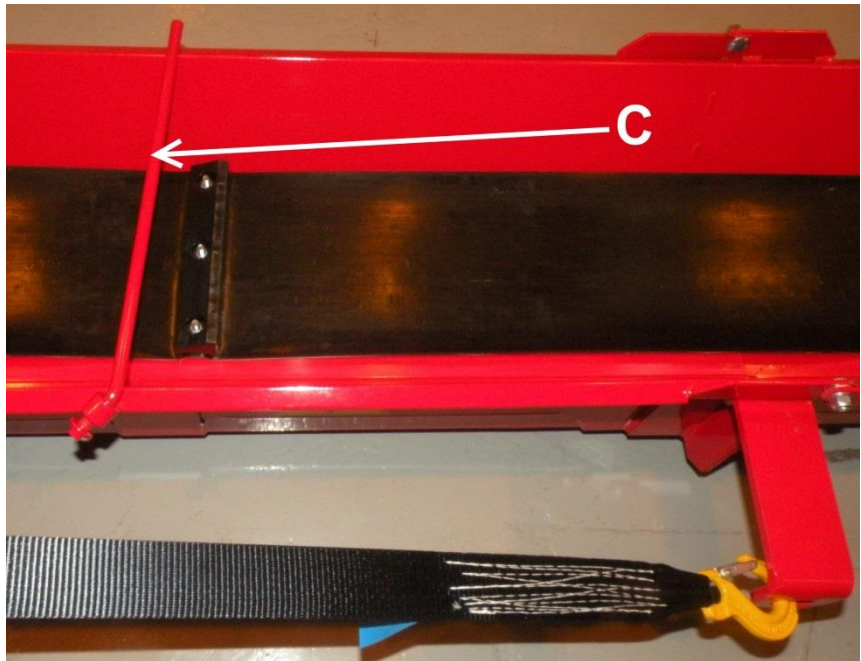
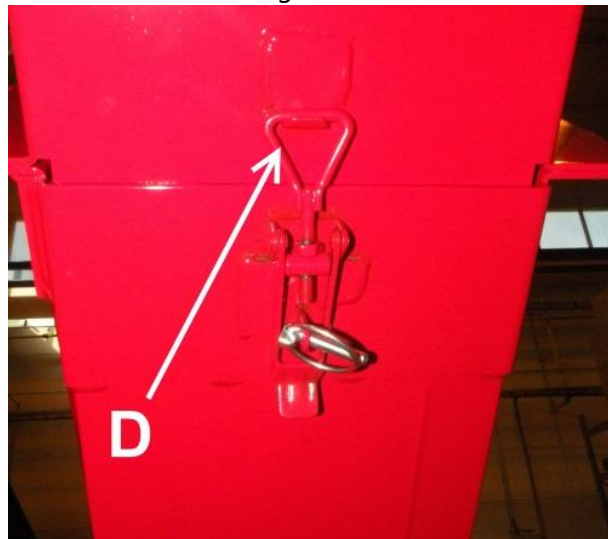

Figure 7.
Figure 8.
5. Turn support bar C of the output conveyor in Figure 7 to the side.
6. Use a winch to lift the conveyor to the desired angle (max 40°) and lock the upper section of the output conveyor to the operating position using lock D in Figure 8.
2. Release lock D, shown in Figure 7, and lower the conveyor to the lowest **possible** position with the winch.
5. Turn splitting groove guard E in Figure 8 into the transport position, as shown in Figure 7.